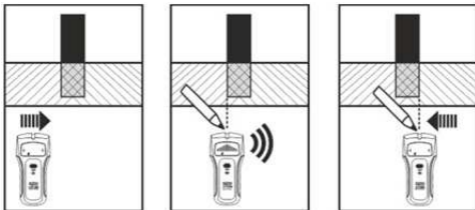

Fig. 3: Scanning of conductive object
4. Hold the instrument in the lower part and move it slowly on the surface from left to right (see Fig.3 - left part)
5. When the central bar is shown on the display (see Fig. 3 – middle part) the instrument emits a continuous sound. Stop the instrument and mark the initial edge of the object on the surface
6. Continue the search scan along the surface until the graphic bar disappears and the sound stops (see Fig.3 - right part). Mark the final edge of the object